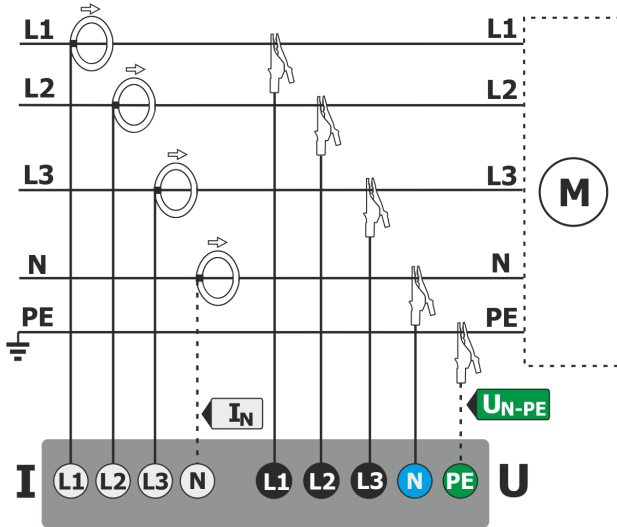

Fig. 60. Wiring diagram – 3-phase 4-wire, 3-phase 4-wire (no U L2) / 2 ½ element (no V L2/B) systems.
- 3-phase 4-wire, 3-phase 4-wire (no U L2) / 2 ½ element (no V L2/B) (Fig. 60),
*In order to correctly calculate total apparent power S_e and total Power Factor (PF) in a 4-wire 3-phase system, it is necessary to measure the current in the neutral conductor. Then it is necessary to activate option **N conductor current** and connect 4 probes, as shown in Fig. 60. More information on total apparent power S_e - see Power Quality Guide document.*